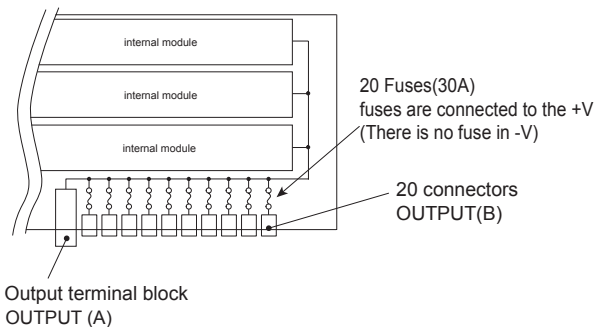

Fig.2.2 Output part block diagram
■OUTPUT(A) and OUTPUT(B), both are able to draw output current up to 208 amps in total.
■Fuses are built-in, and connected to each connector as shown in Fig.2.2.
■OUTPUT(B) has 20 amps drawing capability per each connector.